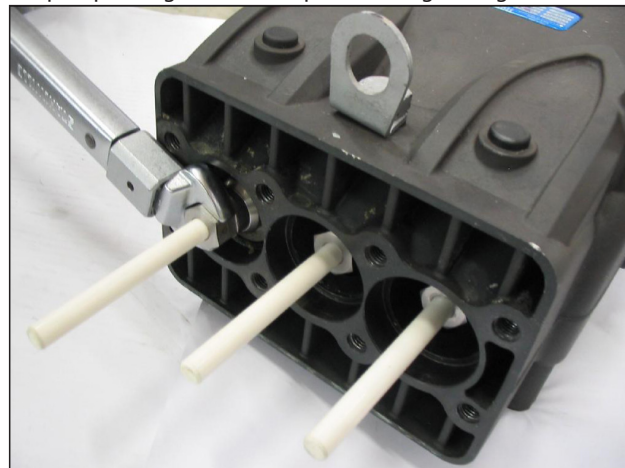
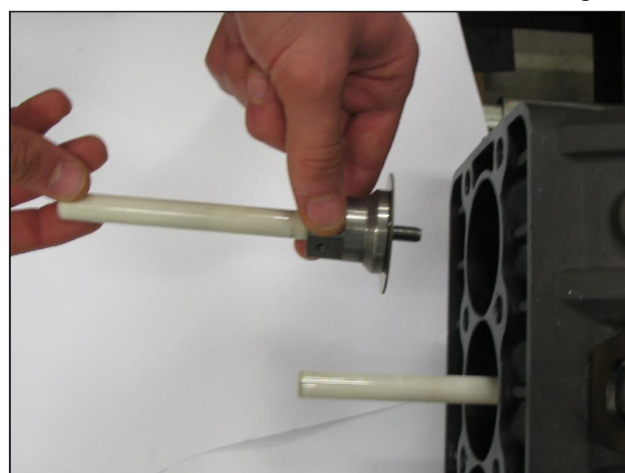

Fig. 28
Fig. 29
- Remove the pumping elements with a fork wrench and check for wear as indicated in Fig. 28 and Fig. 29, replace them if necessary.